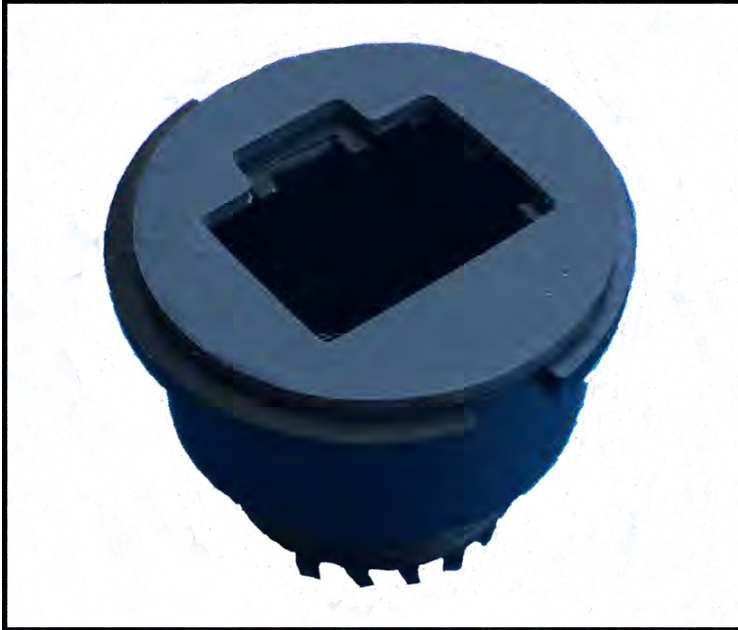

Figure 8: Seal
1. Remove the paper backing on the flat rubber seal and position the seal on the face of the connector body (see Figure 8).